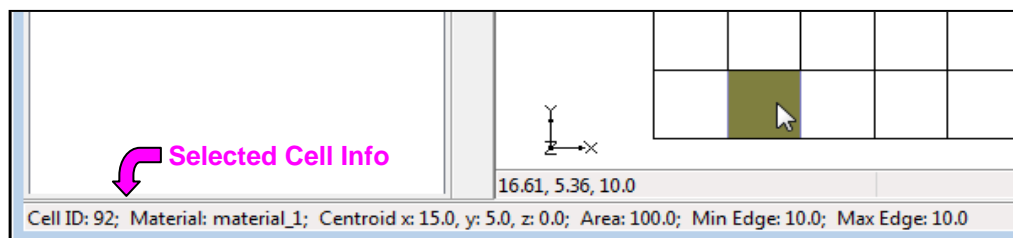

Figure 11 Status bar showing selected cell information
- Using the **Select Cells**  tool, click on any of the cells of the UGrid (Figure 11). Notice that several items of information about the selected cell are displayed in the status bar at the bottom of the main GMS screen.